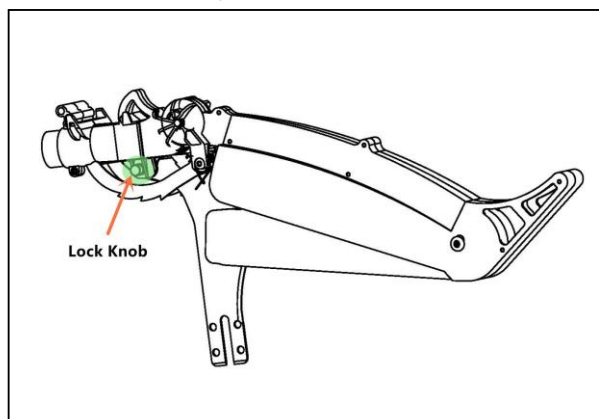

Fig. 17
4. Slide the blade guard onto the spreader, tighten the lock knob. **Fig. 17**